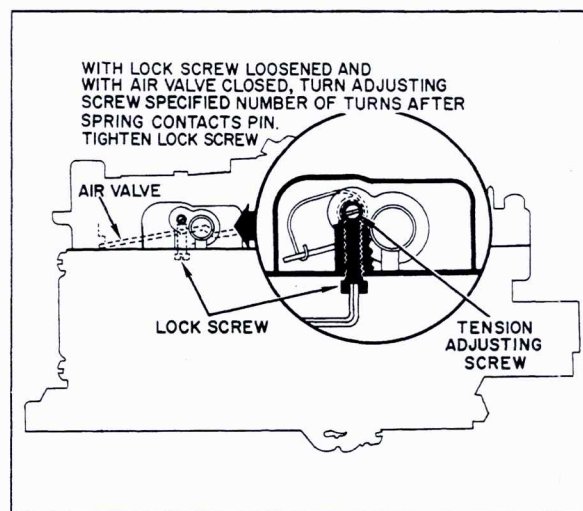

Fig. 6-86 Air Valve Spring Wind-Up Adjustment
89. Air Valve Spring Wind-Up Adjustment (Fig. 6-86)
1. Loosen allen socket head lock screw, Fig. 6-86, and turn adjusting screw counterclockwise to remove all spring tension.